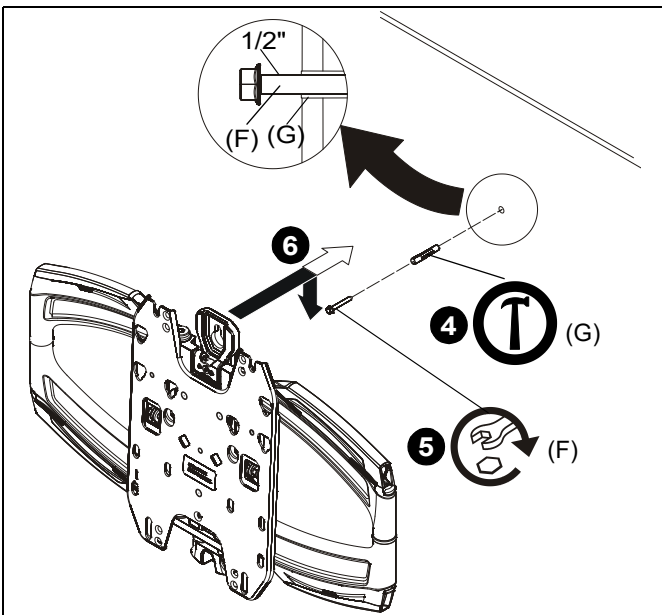

Figure 17
4. Install one concrete anchor (G) into drilled hole. (See Figure 17)
5. Install one 5/16-2 1/2" flange head lag screw (F) into concrete anchor, leaving screw hanging out 1/2" from the wall. (See Figure 17)
6. Hang main assembly (M) onto lag screw (F) by latching key-shaped hole over top of screw. (See Figure 17)